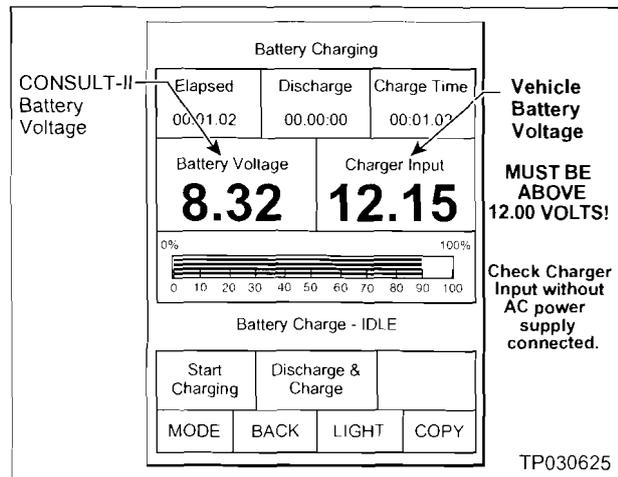

Figure 13
18. Check the CONSULT-II's "Charger Input" reading (see Figure 13).
19. The “Charger Input” reading **MUST** be above 12 volts (see Figure 13 on page 15).
- If “Charger Input” is above 12 volts, power from the vehicle battery will keep CONSULT-II's power supply at the correct level during reprogramming. (see Figure 13).